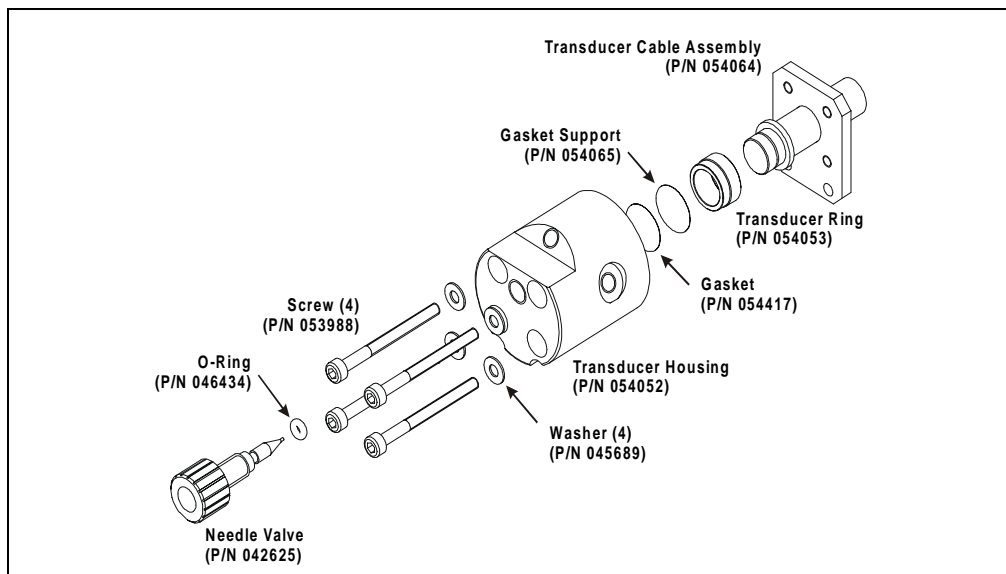

Figure 5-6. Pressure Transducer Assembly
3. Remove the O-ring (see Figure 5-6).